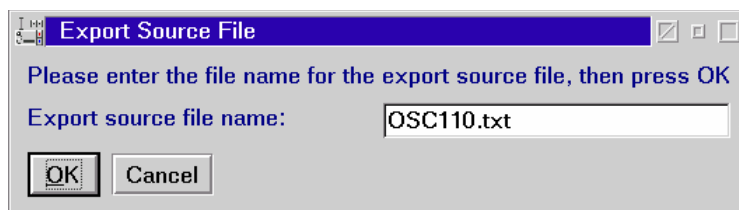

Figure 3-16 Export source file
2. On the Manual Configuration Options panel, click **Export source file** and **OK**. The Export Source File panel is displayed (see Figure 3-16).